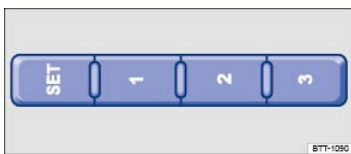

Fig. 83 On the outer side of the driver seat: Memory buttons.
- Press the **SET** button for longer than a second ⇒ Fig. 83.